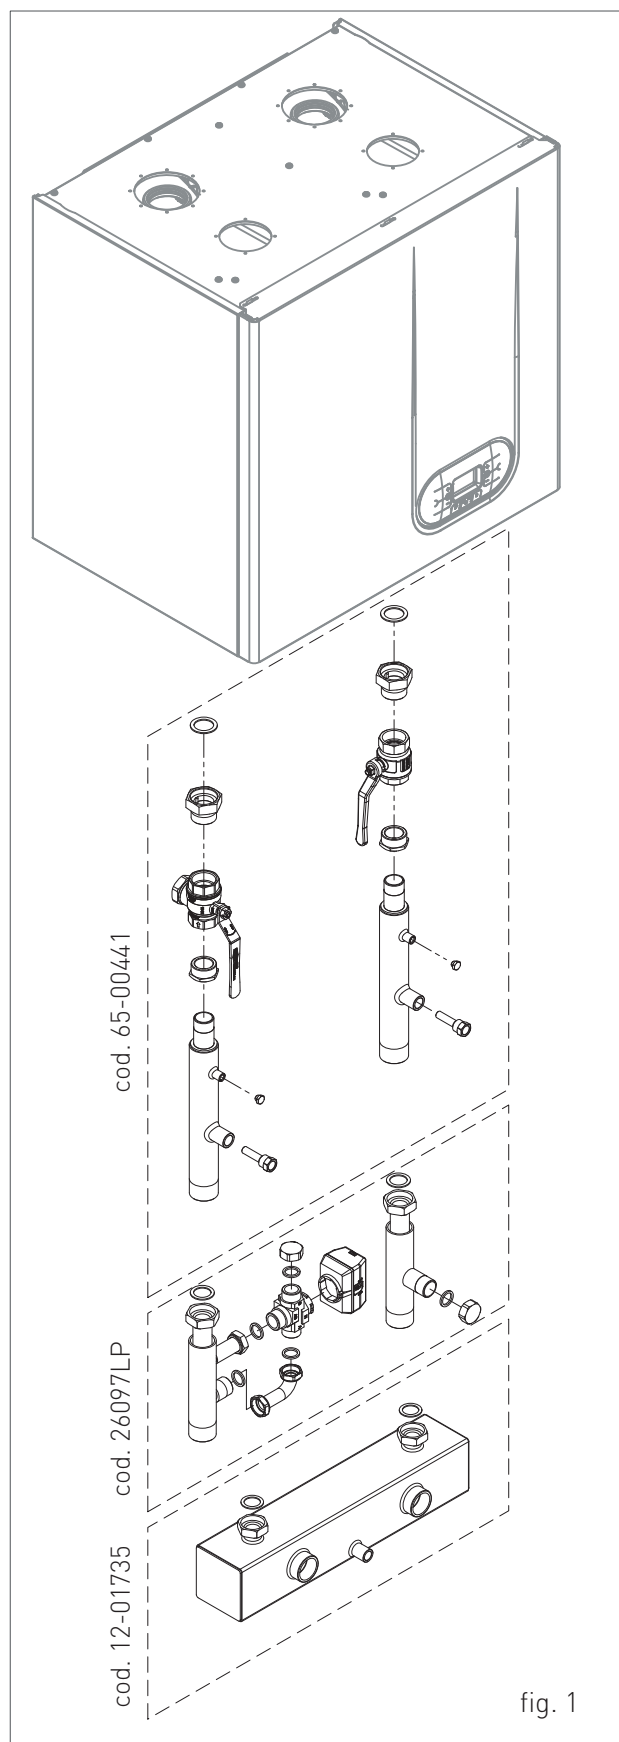

fig. 1
The kit allows combining the thermal generator with a remote boiler for the production of domestic hot water (cod. 26097LP, fig. 1).
In case of a new system or in case of replacement of the generator with the possibility to wash the water pipes, it is recommended to install a hydraulic separator (code 12-01735, fig. 1).
In order to allow the access inside the boiler for maintenance operations, you have to respect the minimum technical spaces indicated in figure 1.
1. fix on the wall (fig. 1), using the fisher, the upper bracket;
2. assemble the side profiles 3 and 4 on the pillars 1 and 2 (fig. 1);